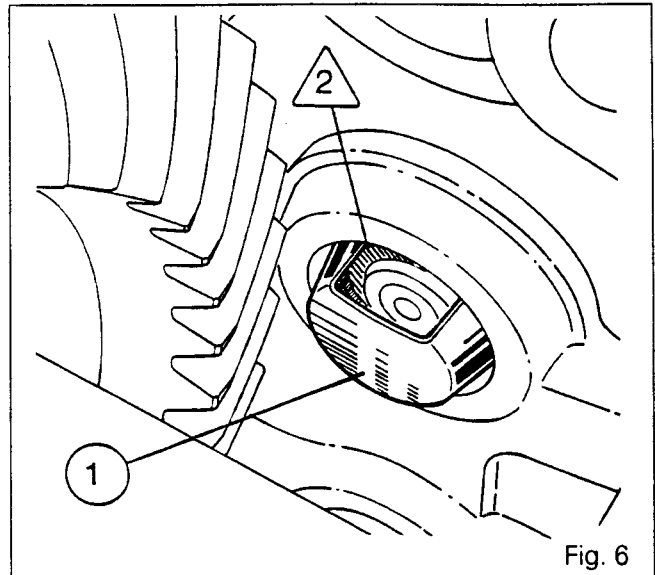
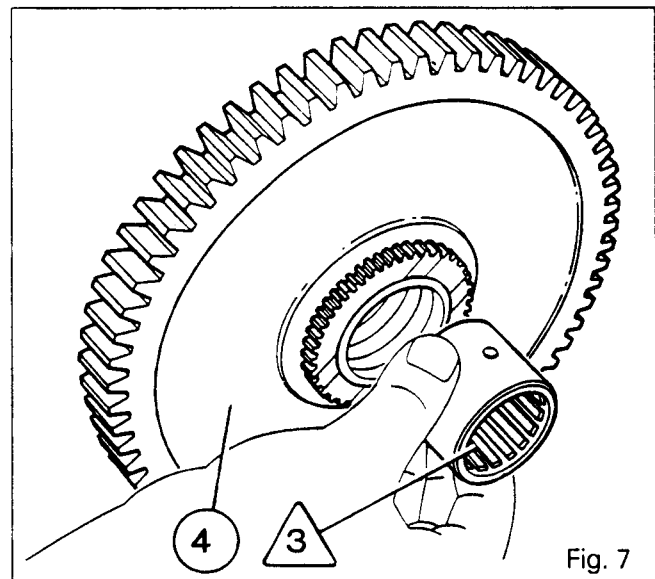

Fig. 6
Fig. 7
29. Smear Loctite 648 on the face of the deflector (1) which meets the housing and place it in its hole. Position the aperture upwards (Fig. 6).
30. Fit the roller bearing /2\ in the housing against deflector (1) (Fig. 6).
- Note: Place the sealed part of the roller bearing towards the gear (4).**
31. Using a jet of compressed air, ensure that the channel of the shaft (13) is not obstructed. Lubricate bushes (19) and (20). Refit the gears (4) and (7), the coupler (5) with the hub (6), the bush /3\ with the toothed opening facing towards the rear of the tractor (Fig. 7).
- Note: If the bushes (19) and (20) are damaged, replace the gears (4) and (7).**